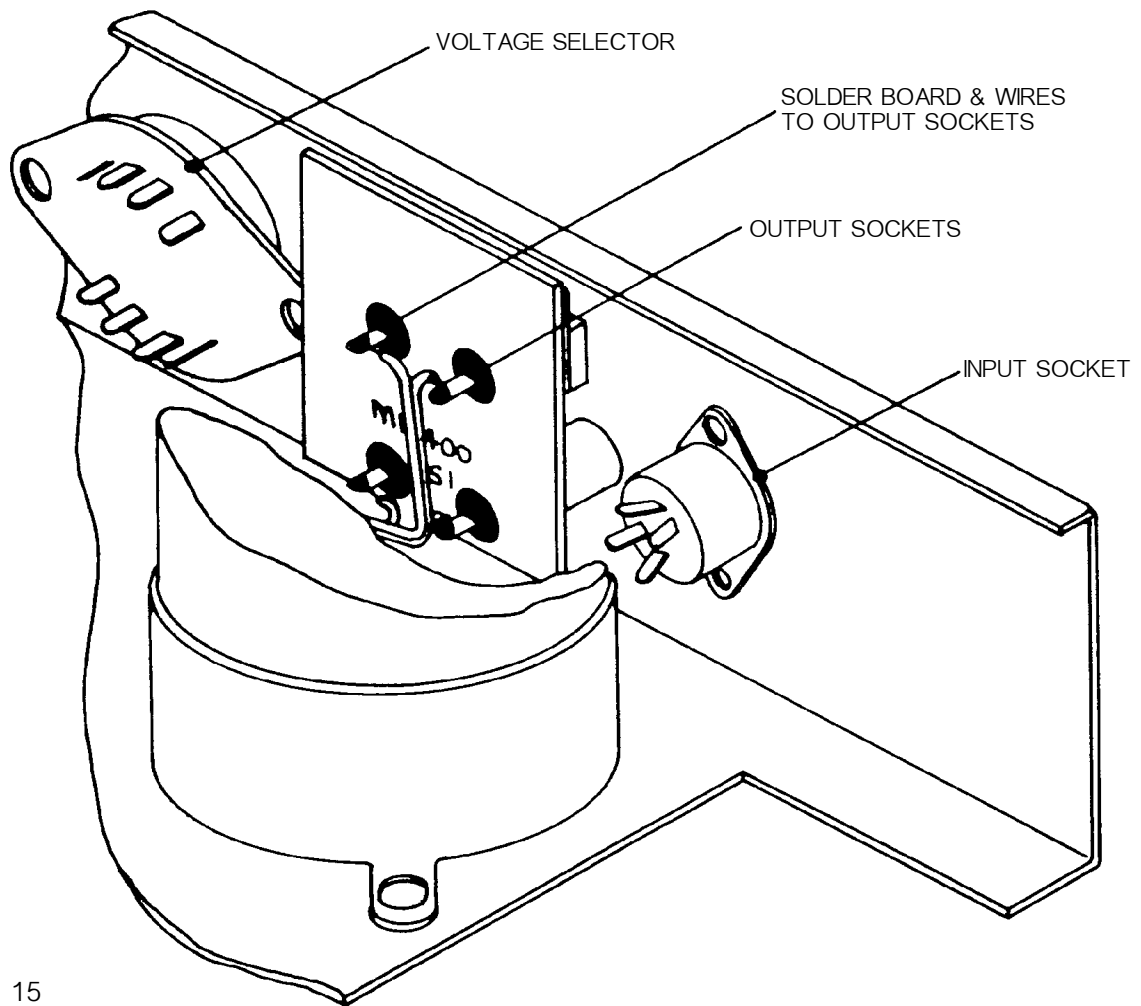

Fig. 15
□ Also at s/n 9000 a clamp circuit, on PCB M12400, was mounted on the output terminal (Fig. 15).